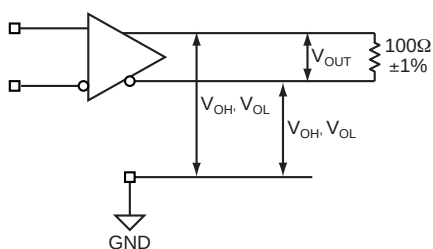

Figure 1a. LVDS Differential Measurement
11. Measured as per Figure 1a, 100 Ω across Q and /Q outputs.